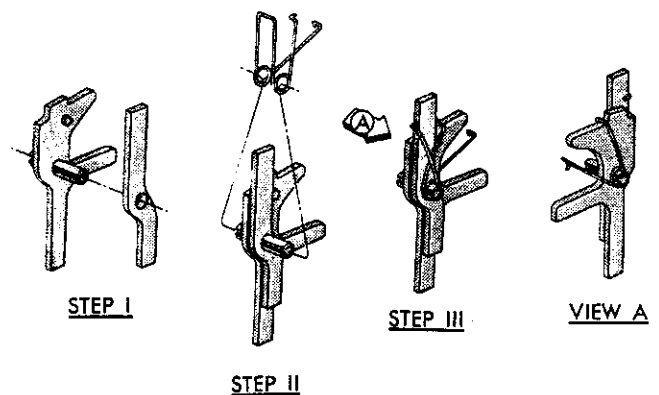

Fig. 28—Lock Levers and Spring—Assembly
(7) Grease and assemble the two lock levers, lock lever spring, and pin (Fig. 28).
(8) Install the resulting assembly in the lock housing. Seat the pin firmly into the bottom of the slots.